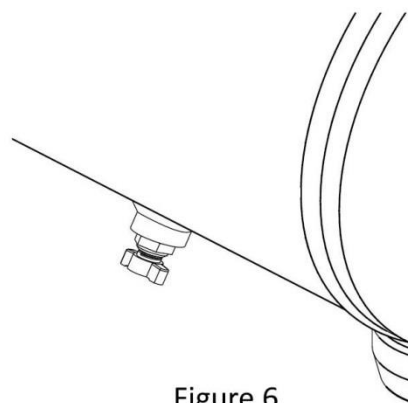

Figure 6
REGULATOR (figure 6)
2. Adjust outlet air pressure by turn the knob as Fig 6 show.